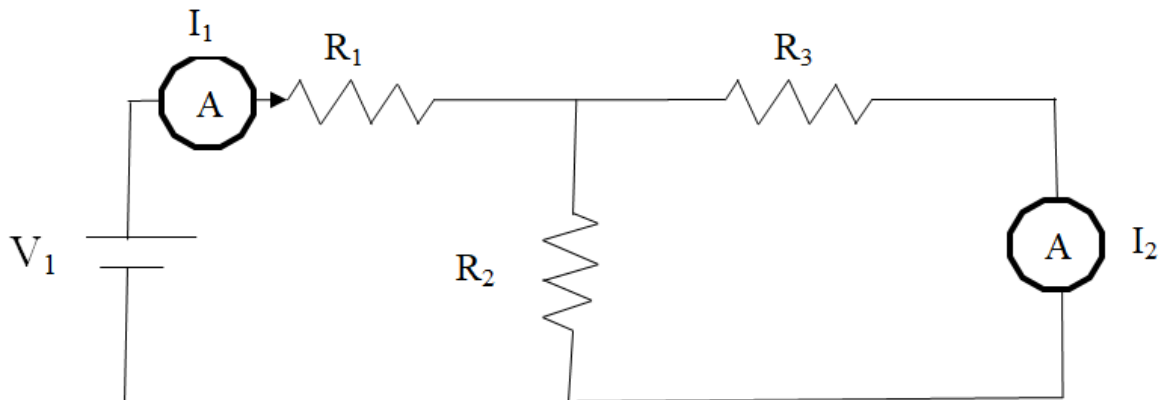

Fig 14.2 Sample circuit case -2
6. Connect the circuit on breadboard as shown in figure 14.2